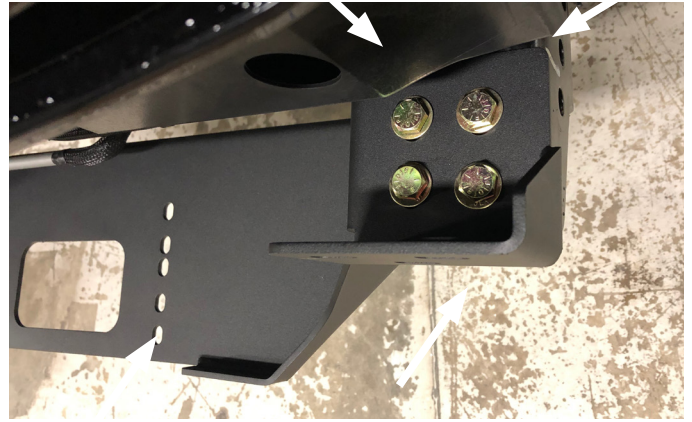

Figure 10
10. Using 3/4" Socket wrenches, install the winch plate (21859) with the provided 1/2"-13 bolts, flat washers, lock washers, and 1/2"-13 nuts on both sides of the vehicle. (50177-HW) (Figure10)